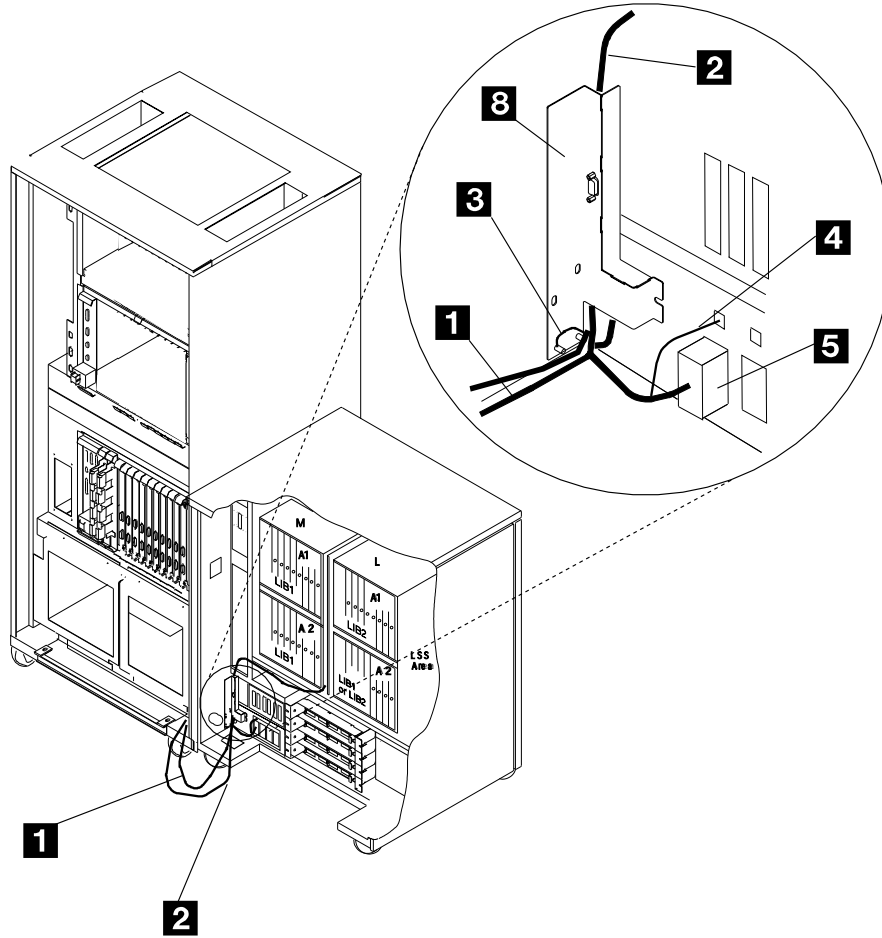
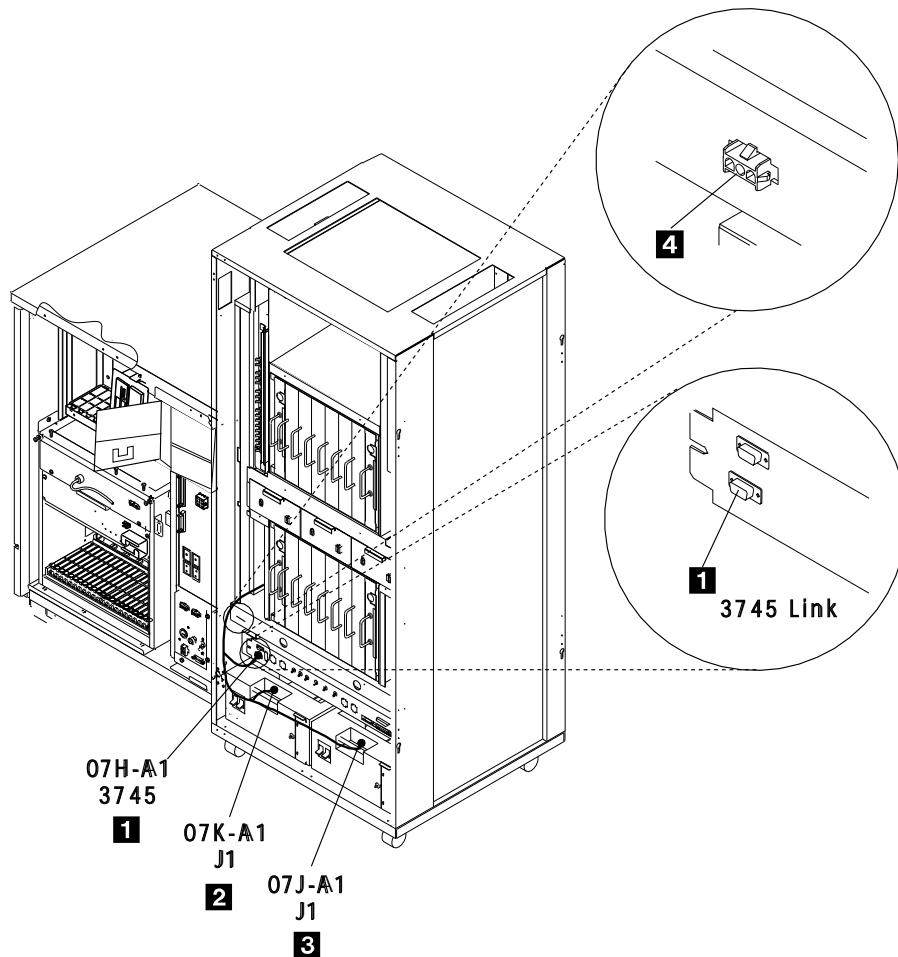

Figure 6-2. Power Control Cable Connection to the 3746-900 Power Box
Figure 6-4. Power Control Cable Connection to the 3746-900 Power Box
- Step 3. ____ Route the cable (PN 17G5923) through the 3746-900, along the bottom of the 3746-900 and 3745 base frames, through the 3745 frame, and up to the 3745 control panel. Refer to Figure 6-2 on page 6-4, cable **2**. The ground lead **3** will be installed later when the power control cable will be connected.
- Step a. ____ Route the power control cable from the rear side of 3745 (grounding area 01W) to the rear side of the 3746-900, then through the 3746-900 frame (see Figure 6-2, cable **1**, and Figure 6-4 on page 6-6).